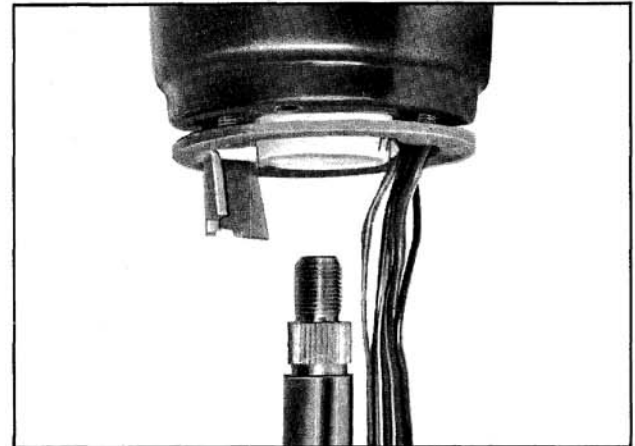

Fig. 8-89 Attaching Turn Signal Housing
6. Position turn signal switch into the turn signal housing and just start the three switch retaining screws into the shift stop plate. (Fig. 8-89)
2. Attach turn signal switch and housing to the shift stop plate by just starting the screws. (Fig. 8-89)